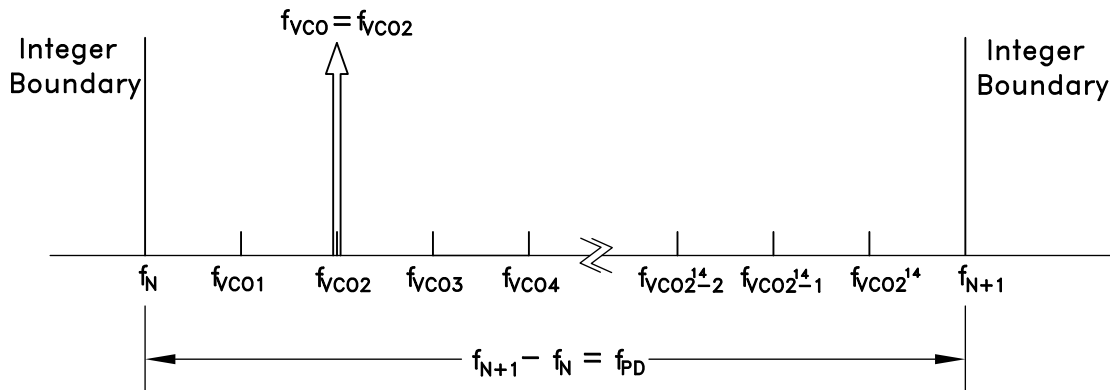

Figure 71. Exact Frequency Tuning
and  $f_{VCOk}$  are the channel step frequencies where  $0 < k < 2^{24}-1$ , As shown in Figure 71.
Some fractional PLLs are able to achieve this by adjusting (shortening) the length of the Phase Accumulator (the denominator or the modulus of the Delta-Sigma modulator) so that the Delta-Sigma modulator phase accumulator repeats at an exact period related to the interval frequency ( $f_{VCOk} - f_{VCO(k-1)}$ ) in Figure 71. Consequently, the shortened accumulator results in more frequent repeating patterns and as a result often leads to spurious emissions at multiples of the repeating pattern period, or at harmonic frequencies of  $f_{VCOk} - f_{VCO(k-1)}$ . For example, in some applications, these intervals might represent the spacing between radio channels, and the spurious would occur at multiples of the channel spacing.
If it is desirable to have multiple, equally spaced, exact frequency channels that fall within the same interval (ie.  $f_N \leq f_{VCOk} < f_{N+1}$ ) where  $f_{VCOk}$  is shown in Figure 71 and  $1 \leq k \leq 2^{24}$ , it is possible to maintain the same integer-N (Reg 03h) and exact frequency register (Reg 0Ch) settings and only update the fractional register (Reg 04h) setting. The Exact Frequency Channel Mode is possible if EQ 16 is satisfied for at least two equally spaced adjacent frequency channels, i.e. the channel step size.
To configure the HMC1190ALP6NE for Exact Frequency Channel Mode, initially and only at the beginning, integer (Reg 03h) and exact frequency (Reg 0Ch) registers need to be programmed for the smallest  $f_{VCO}$  frequency ( $f_{VCO1}$  in Figure 71), as follows:
1. Calculate and program the integer register setting  $\text{Reg 03h} = N_{INT} = \text{floor}(f_{VCO1}/f_{PD})$ , where  $f_{VCO1}$  is shown in Figure 71 and corresponds to minimum channel VCO frequency. Then the lower integer boundary frequency is given by  $f_N = N_{INT} \cdot f_{PD}$ .
$\text{Reg04h} = N_{FRAC} = \text{ceil} \left\lceil \frac{2^{24} (f_{VCOk} - f_N)}{f_{PD}} \right\rceil$  where  $f_N = \text{floor}(f_{VCO1}/f_{PD})$ , and  $f_{VCO1}$ , as shown in Figure 71, represents the smallest channel VCO frequency that is greater than  $f_N$ .
4. To change from channel 1 ( $f_{VCO1} = 2800.2$  MHz) to channel 2 ( $f_{VCO2} = 2800.3$  MHz), only Reg 04h needs to be programmed, as long as all of the desired exact frequencies  $f_{VCOk}$  (Figure 71) fall between the same integer-N boundaries ( $f_N < f_{VCOk} < f_{N+1}$ ). In that case